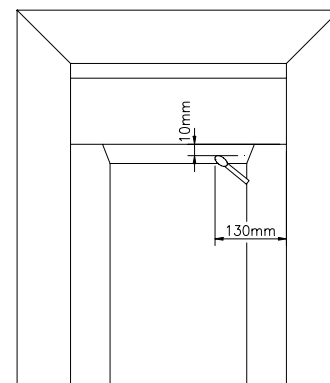

Fig. 6 Positioning the smoke match
3. After approximately 5 minutes place a smoke match 130mm from the right hand side, inside edge of the trim, 10mm below and 10mm within the opening of the fire as shown in Fig. 6. Ensure that the smoke is drawn into the fire aperture. If spillage is detected, operate the fire for a further 10 minutes and repeat the test. If spillage is still detected introduce ventilation into the room by opening a window or door. If spillage is no longer detected then purpose made ventilation with a minimum area of 100 sq.cm must be provided.